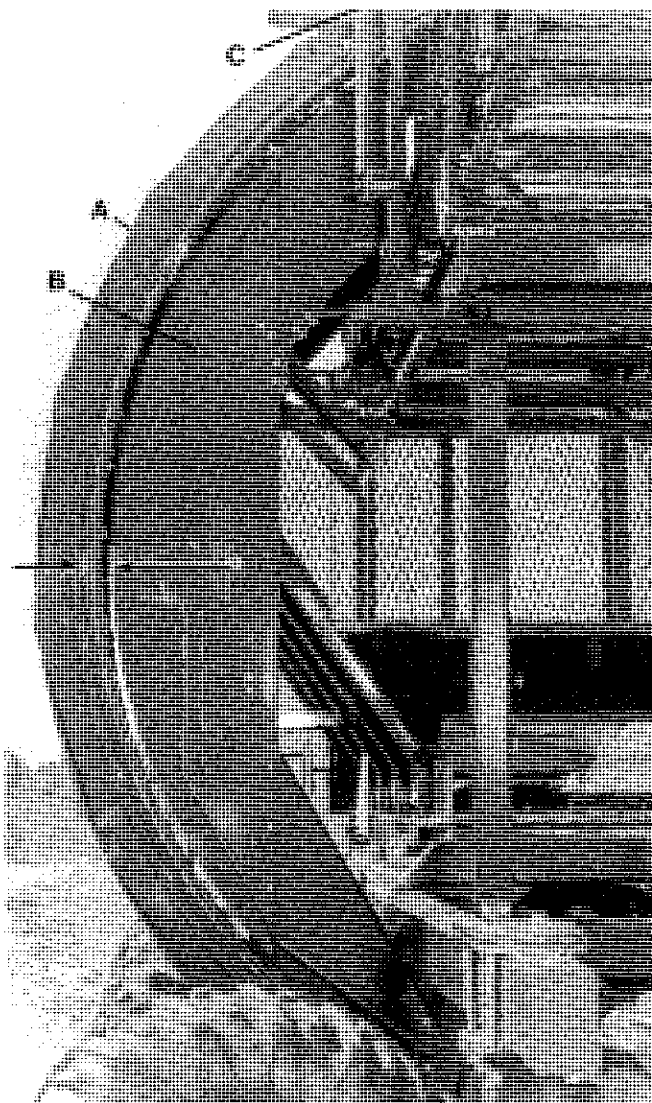
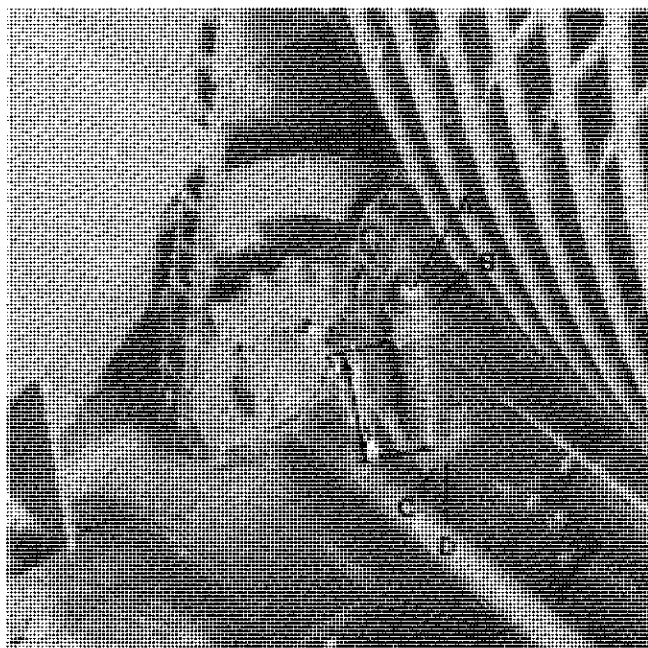

FIGURE 34 - WHEEL ELEVATOR
FIGURE 35 - WHEEL ELEVATOR DRIVE
The wheel elevator (A) revolves at approximately 11 rpm at 1000 PTO rpm. The beets are carried up to the truck elevator as the wheel revolves in the direction of travel. The retainer (B) holds the beets in the wheel until they get to the top and fall into the truck elevator. The stripper (C) clears the wheel of any rocks or beets that get wedged between the rods (see figure 35).
Loosen jam nut (A) and turn adjusting nut (B) (see figure 34). Check this adjustment by pulling the chain away from the rear of the wheel elevator. A distance between  $\frac{1}{2}$ " and  $1\frac{1}{2}$ " indicates proper chain tension (see arrows, figure 35).
Set dampener spring length to  $6\frac{3}{4}$ " by loosening jam nut (C) and turning adjusting nut (D) (see figure 35).
Operate the elevator until the chain connector link is positioned near the drive shaft for easy removal. Loosen jam nut (A) and turn adjusting nut (B) until maximum chain slack is obtained, then disconnect chain (see figure 35).
The retainer and rods keep the beets from falling out of the wheel elevator pockets on the way up. The retainer frame must be centered right-and-left and front to back with the wheel elevator. The distance between the retainer and the wheel elevator must be the same at the top (D) as it is at the bottom (E). Make this adjustment at the top attaching point (see figure 34). Make sure the retainer does not make contact with the truck elevator.